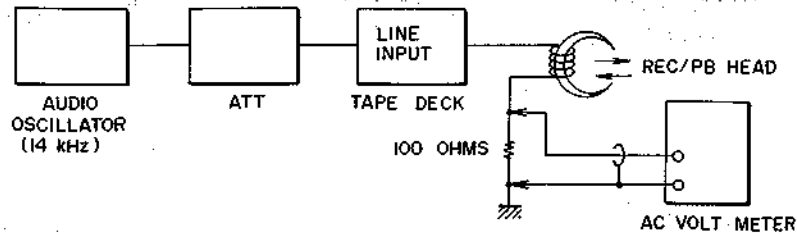

Fig. 22 Instruments Connection
- Stop recording bias oscillator while making Rec Peaking Adjustment (Refer to Figs. 22, 23).